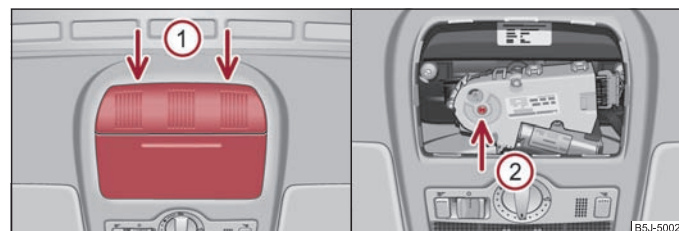

Fig. 35 Detail of the headliner: Points for positioning screwdriver / opening for positioning the key
- Position the flat blade of a screwdriver carefully against the rear edge of the cover for the electrical drive at the points of the arrows **(1)** ⇒ fig. 35 on the left.
- Insert an Allen key, Group 4, up to the stop into the opening at the point of the arrow **(2)** and close and/or open the sliding/tilting roof ⇒ fig. 35 on the right.